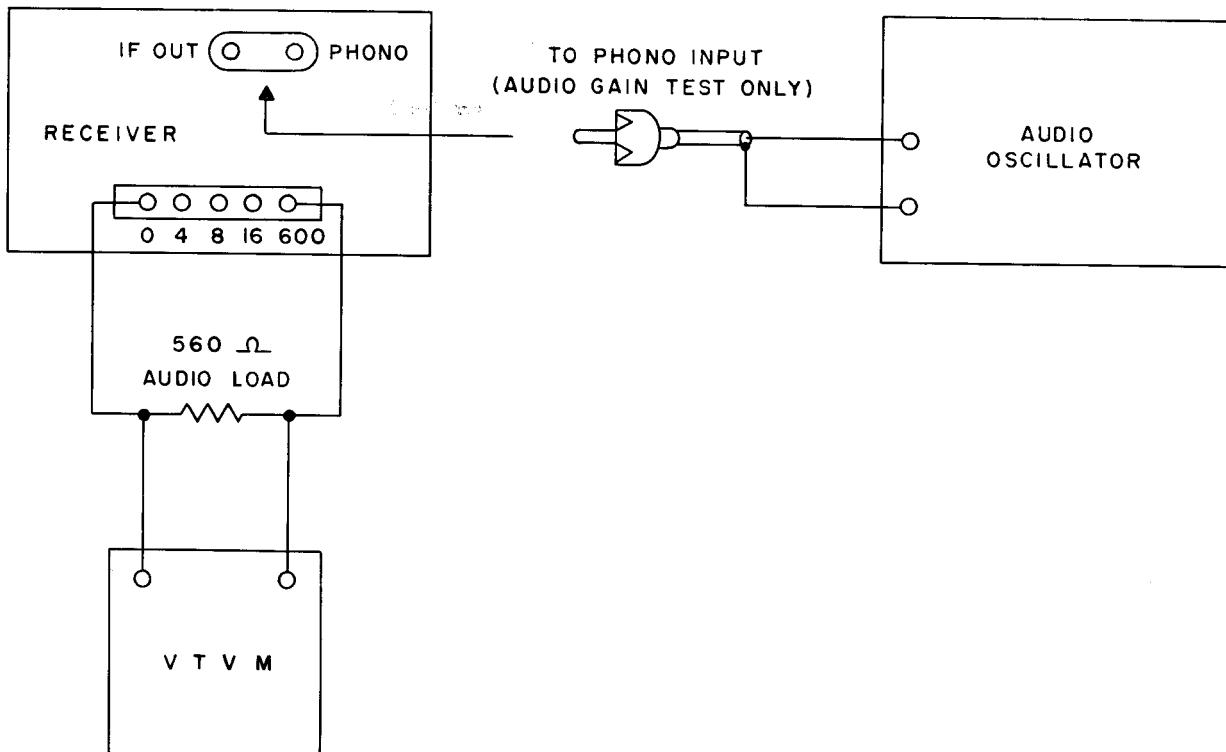

Figure 4-1. Test Equipment Connections for Audio Gain Test and I-F Alignment
a. Plug audio oscillator into PHONO jack at rear of receiver, and connect 560-ohm audio load and a-c vtvm in parallel across 600-ohm speaker terminals (Figure 4-1).
- c. Connect 560-ohm audio load and a-c vtvm in parallel across 600-ohm speaker terminals (Figure 4-1).